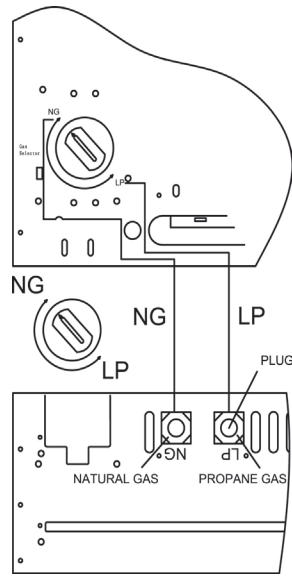

Figure 15
2. For NATURAL GAS, press knob using a flat screwdriver with a blade with thickness of a quarter and turn knob clockwise  until the knob locks into the NG position (see Figure 15). Fuel selection device must be locked in the NG position. Do not operate heater between locked positions!